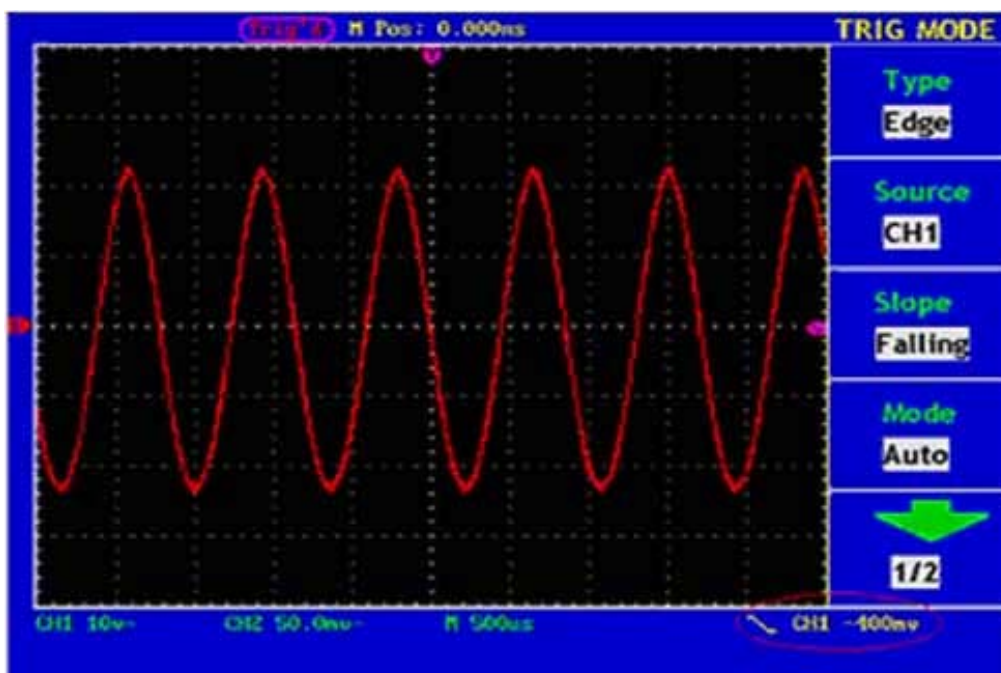

Fig. 29 Wave Form Triggered on the Falling Edge
- For the screen display, see Fig. 29.